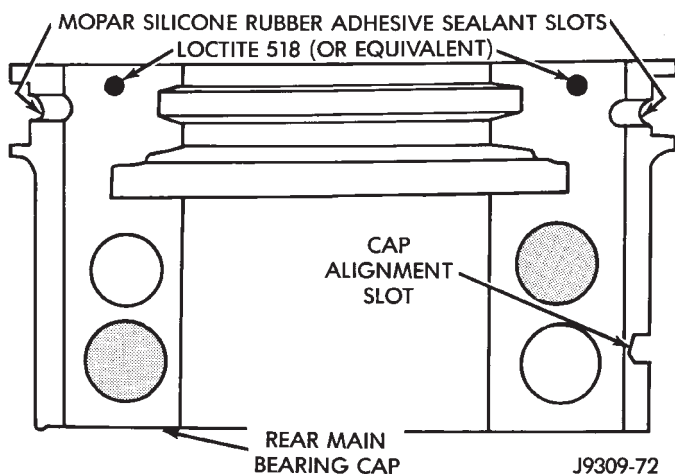
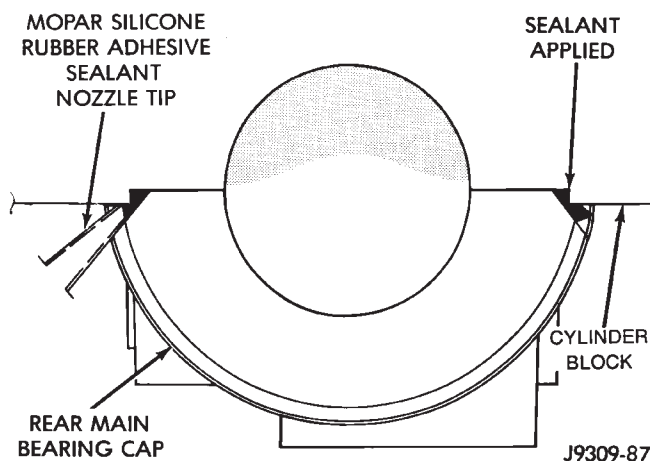

Fig. 52 Sealant Application to Bearing Cap
Fig. 53 Apply Sealant to Bearing Cap-to-Block Joint
- (1) Clean the cylinder block rear cap mating surface. Be sure the seal groove is free of debris. Check for burrs at the oil hole on the cylinder block mating surface to rear cap.
- (2) Lightly oil the new upper seal lips with engine oil.
- (3) Install the new upper rear bearing oil seal with the white paint facing toward the rear of the engine.
- (4) Position the crankshaft into the cylinder block.
- (5) Lightly oil the new lower seal lips with engine oil.
- (6) Install the new lower rear bearing oil seal into the bearing cap with the white paint facing towards the rear of the engine.
- (7) Apply 5 mm (0.20 in.) drop of Loctite 518, or equivalent, on each side of the rear main bearing cap (Fig. 52). DO NOT over-apply sealant or allow the sealant to contact the rubber seal. Assemble bearing cap to cylinder block immediately after sealant application.
- (8) To align the bearing cap, use cap slot, alignment dowel, and cap bolts. DO NOT remove excess material after assembly. DO NOT strike rear cap more than two times for proper engagement.
- (9) Clean and oil all cap bolts. Install all main bearing caps. Install all cap bolts and alternately tighten to 115 N·m (85 ft. lbs.) torque.
- (10) Install oil pump.
- (11) Apply Mopar Silicone Rubber Adhesive Sealant, or equivalent, at bearing cap-to-block joint to provide cap to block and oil pan sealing (Fig. 53). Apply enough sealant so that a small amount is squeezed out. Withdraw nozzle and wipe excess sealant off the oil pan seal groove.
- (12) Install new front crankshaft oil seal.
- (13) Immediately install the oil pan.
(4) Install the new lower rear bearing oil seal into the bearing cap with the white paint facing toward the rear of the engine.
(5) Apply 5 mm (0.20 in.) drop of Loctite 518, or equivalent, on each side of the rear main bearing cap (Fig. 52). DO NOT over-apply sealant or allow the sealant to contact the rubber seal. Assemble bearing cap to cylinder block immediately after sealant application. Be sure the white paint faces toward the rear of the engine.
(6) To align the bearing cap, use cap slot, alignment dowel, and cap bolts. DO NOT remove excess material after assembly. DO NOT strike rear cap more than two times for proper engagement.
(7) Install the rear main bearing cap with cleaned and oiled cap bolts. Alternately tighten ALL cap bolts to 115 N·m (85 ft. lbs.) torque.
(8) Install oil pump.
(9) Apply Mopar Silicone Rubber Adhesive Sealant, or equivalent, at bearing cap-to-block joint to provide cap-to-block and oil pan sealing (Fig. 53). Apply enough sealant until a small amount is squeezed out. Withdraw nozzle and wipe excess sealant off the oil pan seal groove.
(10) Immediately install the oil pan.
(1) Clean the rear main cap mating surfaces including the oil pan gasket groove.
(2) Carefully install a new upper seal. Refer to Upper Seal Replacement — Crankshaft Installed procedure above.
(3) Lightly oil the new lower seal lips with engine oil.
(4) Install a new lower seal in bearing cap with the white paint facing the rear of engine.
(5) Apply 5 mm (0.20 in.) drop of Loctite 518, or equivalent, on each side of the rear main bearing cap (Fig. 52). DO NOT over-apply sealant or allow the sealant to contact the rubber seal. Assemble bearing cap to cylinder block immediately after sealant application.
(7) Install the rear main bearing cap with cleaned and oiled cap bolts. Alternately tighten the cap bolts to 115 N·m (85 ft. lbs.) torque.
(9) Apply Mopar Silicone Rubber Adhesive Sealant, or equivalent, at bearing cap-to-block joint to provide cap to block and oil pan sealing. Apply enough sealant so that a small amount is squeezed out. Withdraw nozzle and wipe excess sealant off the oil pan seal groove.